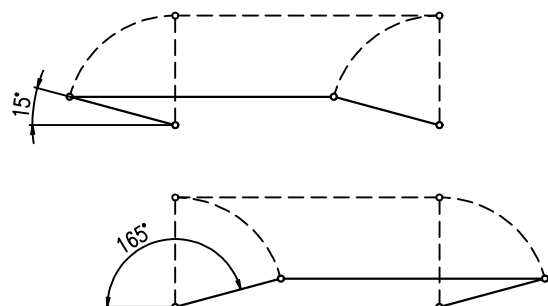

Fig.2
##### Mechanical lever connection (Fig.2)
- While installing take care to have the angle between the lever and the pull-rod at least  $15^\circ$  and at most  $165^\circ$  (Fig.2).